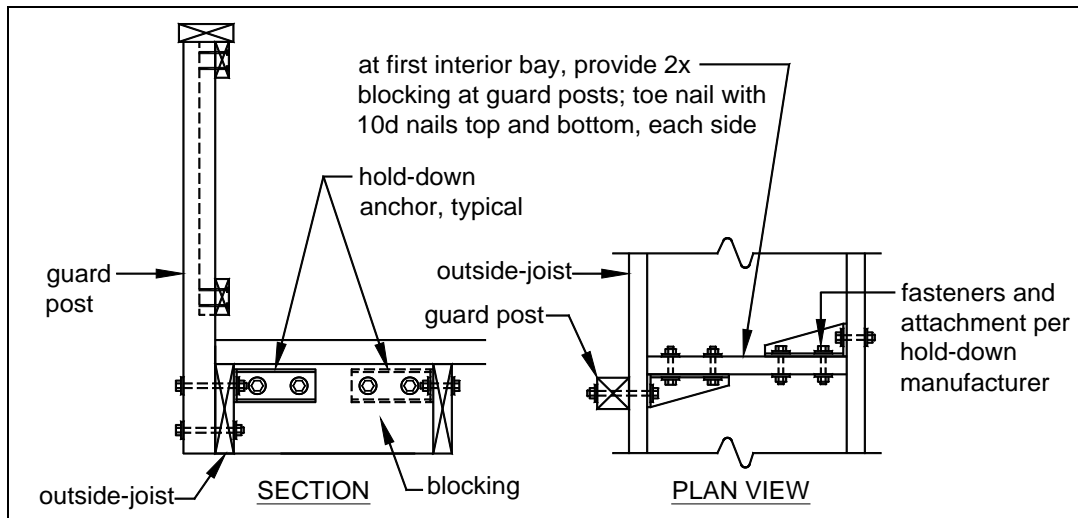
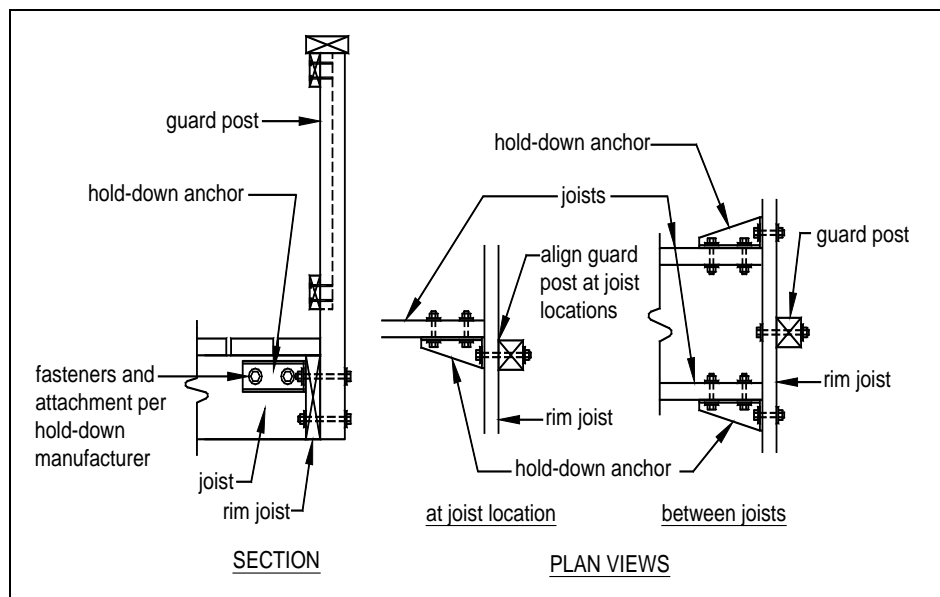

FIGURE 30: GUARD POST-TO-OUTSIDE JOIST DETAIL
FIGURE 31: GUARD POST-TO-RIM JOIST DETAIL
- Hold-down anchors, as shown in FIGURE 30 and FIGURE 31, shall be used to attach the guard post to the outside joist and rim joist, respectively.